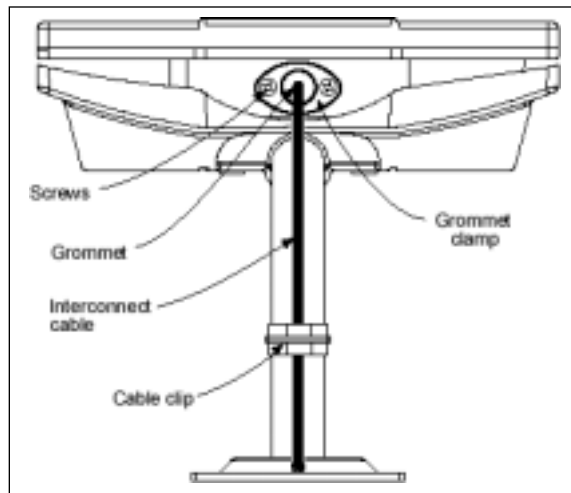

Figure 5-14 Interconnect Cable Installation to Outdoor Access Point - Bottom View
12. Secure the interconnect cable to the mounting pole with the cable clip as shown in Figure 5-14.
1. Grounding all the outdoor transceivers as shown in Figure 5-14.